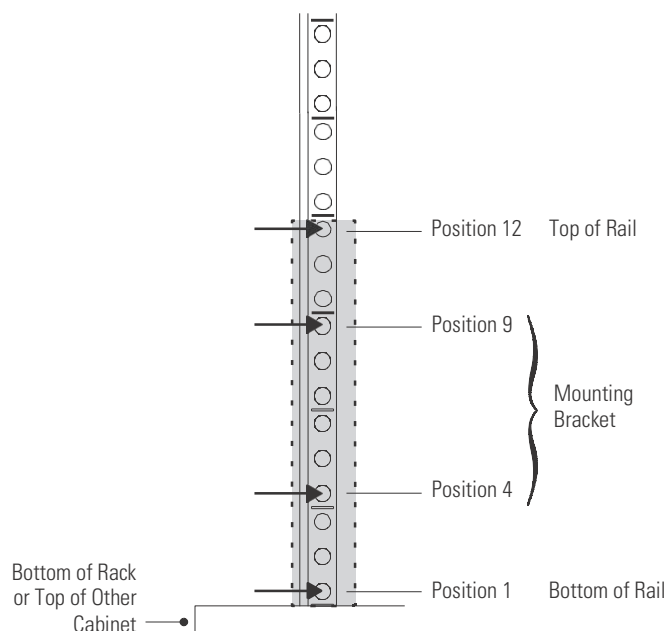
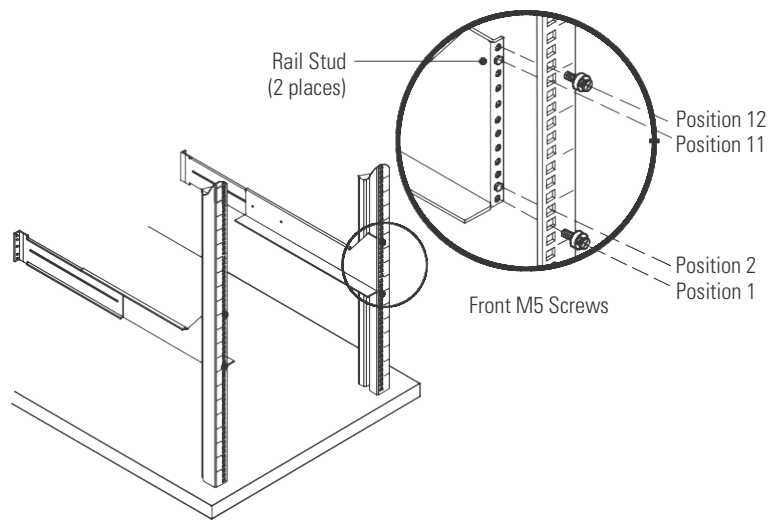

Figure 46. Front Rail Screw Positions for the UPS
Figure 48. Attaching the Front Rail
1. Select the proper holes in the rack for positioning the UPS in the rack (see Figure 46).
3. Using two M5 machine screws, attach the rail to the front of the rack and finger-tighten only (see Figure 46 and Figure 48).